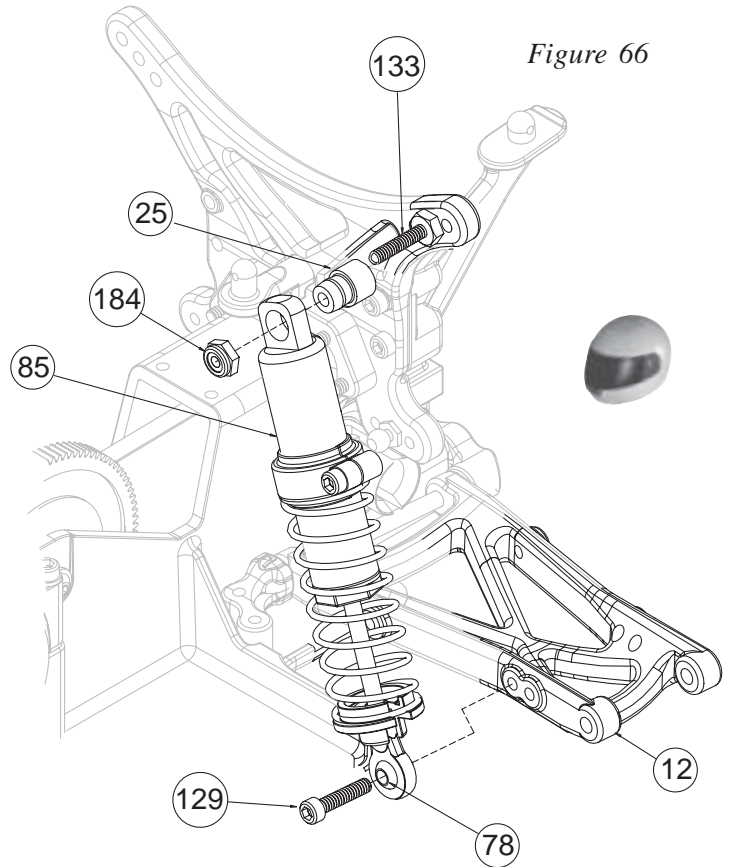

Figure 66
❑ 1. Position the bottom of an assembled rear shock in front of the shock mounting area on the left rear suspension arm (12) as shown in Figure 66. Align the hole in the shock mount ball (78) with the inside hole in the arm.